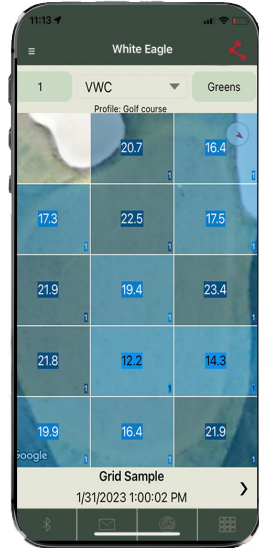

Figure 5 - Grid Mode
1. **Basic Grid Mode** - Available with or without a SpecConnect subscription. The site is divided into a customizable 2-dimensional grid of 3 to 5 rows and 3 to 5 columns. Measurements are taken in each grid cell. Grid cells are color coded to show the firmness average (Figure 5).